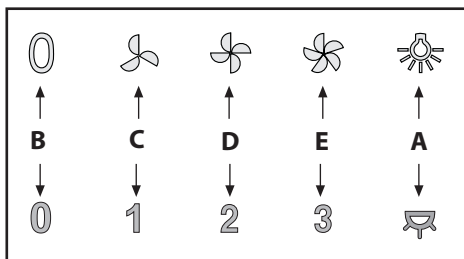

Fig.9
• **Commands (**Fig.9**) mechanical** the key symbols are explained below: